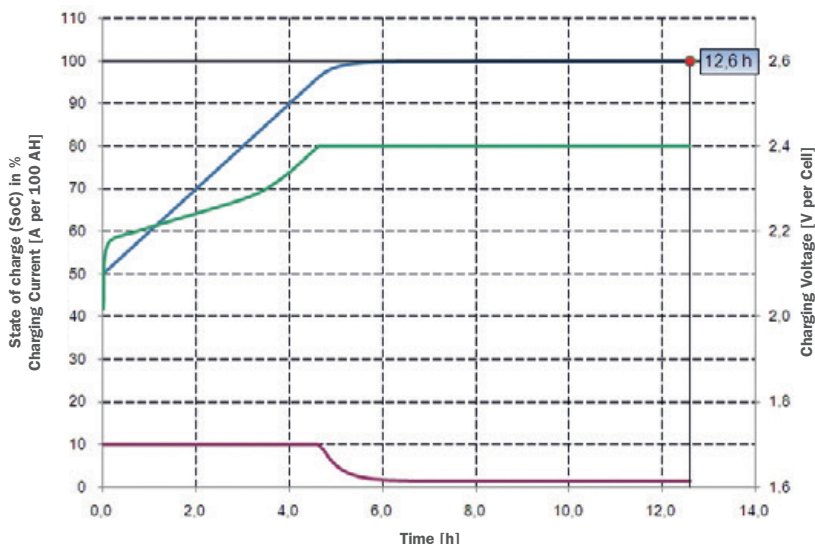
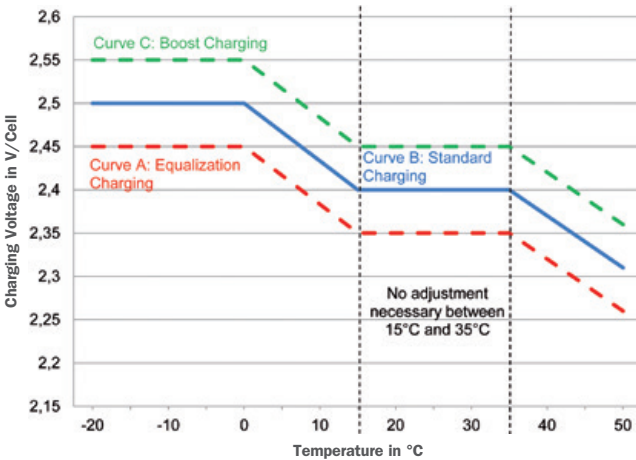

Fig. 7-1: Charging characteristic of OPzB solar power cell at 50% DoD
Fig. 7-2: Charging voltage as a function of temperature in solar cycling operation
The chart below (refer to fig 7-1) demonstrates the OPzV solar.power recharge characteristic (IU-characteristic) after a discharge of 50% DoD (Depth of Discharge).
Charging procedure shall be compliant to IU- or IU₁ – characteristic (refer to example fig. 7-1.). Recommended charging voltages for cyclical applications² are depicted in fig. 7-2.
1. Boost charge (charger equipped with two-stage controller): Charge with boost charge voltage (refer to curve C in fig. 7-2) for max. 2 hours per day. The charging voltage has to be reduced after max. 2 h in boost voltage stage (refer to curve A in fig. 7-2). Charging current should range at 5 A to 20 A³ per 100 Ah battery capacity (C₁₀). After the charging current has reached 1 A/100 Ah battery capacity (C₁₀) the charging voltage needs to be adjusted to normal float charge voltage for standby batteries as given in the HOPPECKE operating instructions (2.25 V/cell at temperature between 15 °C and 35 °C).
Charge with standard charge voltage (refer to curve B in fig. 7-2). Charging current should range at 5 A to 20 A per 100 Ah battery capacity (C₁₀). After the charging current has reached 1A/100Ah battery capacity (C₁₀) the charging voltage needs to be adjusted to normal float charge voltage for standby batteries as given in the HOPPECKE operating instructions (2.25 V/cell at temperature between 15 °C and 35 °C).
- Max. 2.4 V/Cell up to 48 hours (refer to curve A in fig. 7-2).